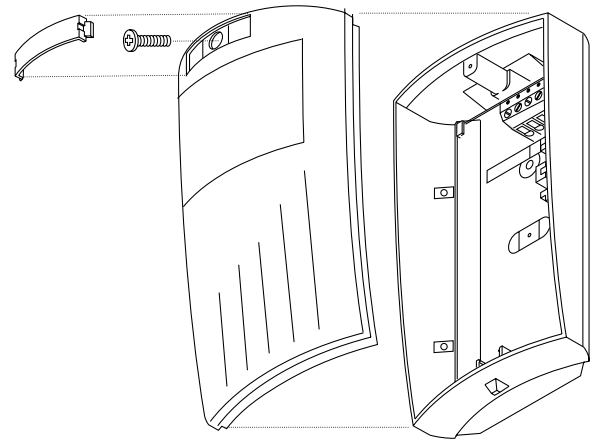

Figure 1. Sensor (exploded)
2. Lift off the front cover/electronic module. Remove the nameplate and loosen the screw if necessary. See Figure 1.
9. Tighten the screw and replace the nameplate. See Figure 1.